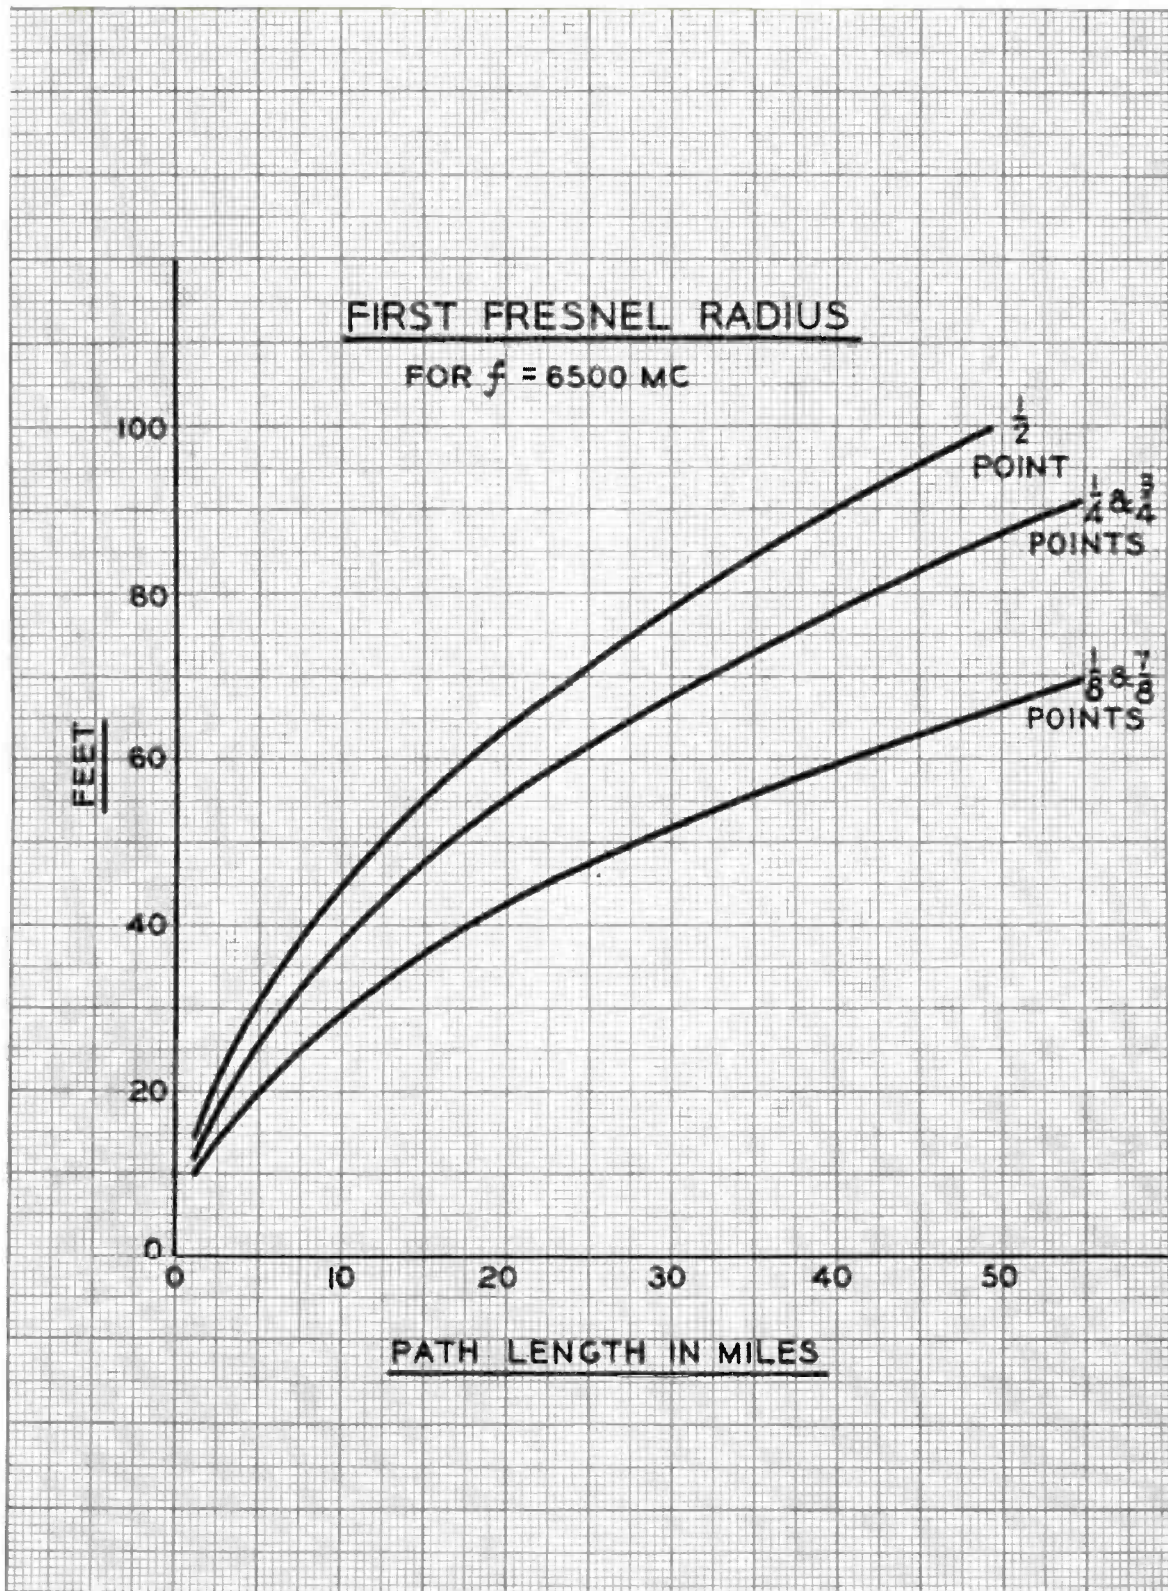

FIG. 4. First Fresnel radius curves for various path lengths.
- (2) Where the path is over water or over smooth terrain which might produce strong reflections. The terrain may be considered smooth if variations in height all along the path are less than 75 per cent of the first Fresnel Zone radius computed at the center of the path (see Fig. 4).
- (3) Where the path length is greater than 10 miles and atmospheric conditions are conducive to unusually severe fading as described in the section on fading (page 10).
As a general guide, it may be assumed that the terrain which the microwave path crosses is "broken" if the variations in profile height all along the path are greater than 75 per cent of the first Fresnel Zone radius computed at the center of the path. (Refer to Fig. 4, first Fresnel Radius.)